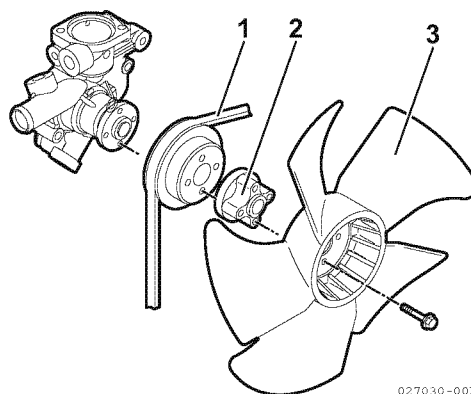

Figure 9-20
7. Install the coolant pump V-pulley (1, Figure 9-20), spacer (2, Figure 9-20), coolant fan (3, Figure 9-20) and fan guard (if equipped).